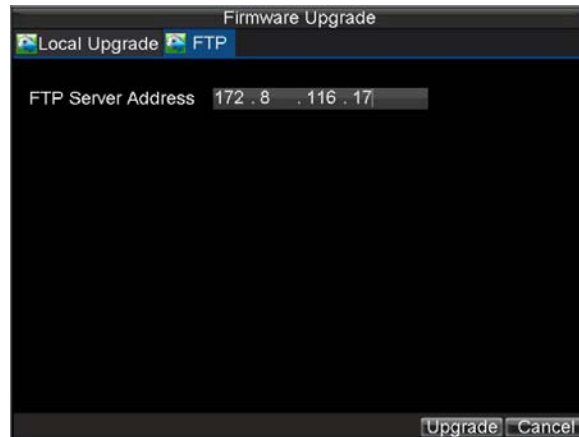

Figure 12. FTP Firmware Update
3. Select the **FTP** tab, shown in Figure 12.